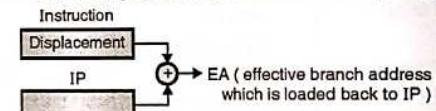

Fig. 4.9.1 : Intrasegment direct
- In this case the effective branch address is the sum of an 8 or 16 bit displacement and the current contents of IP. It means that branching is within the segment i.e. within 64k bytes, therefore no need to change CS. Fig. 4.9.1 shows graphical representation of the operation.